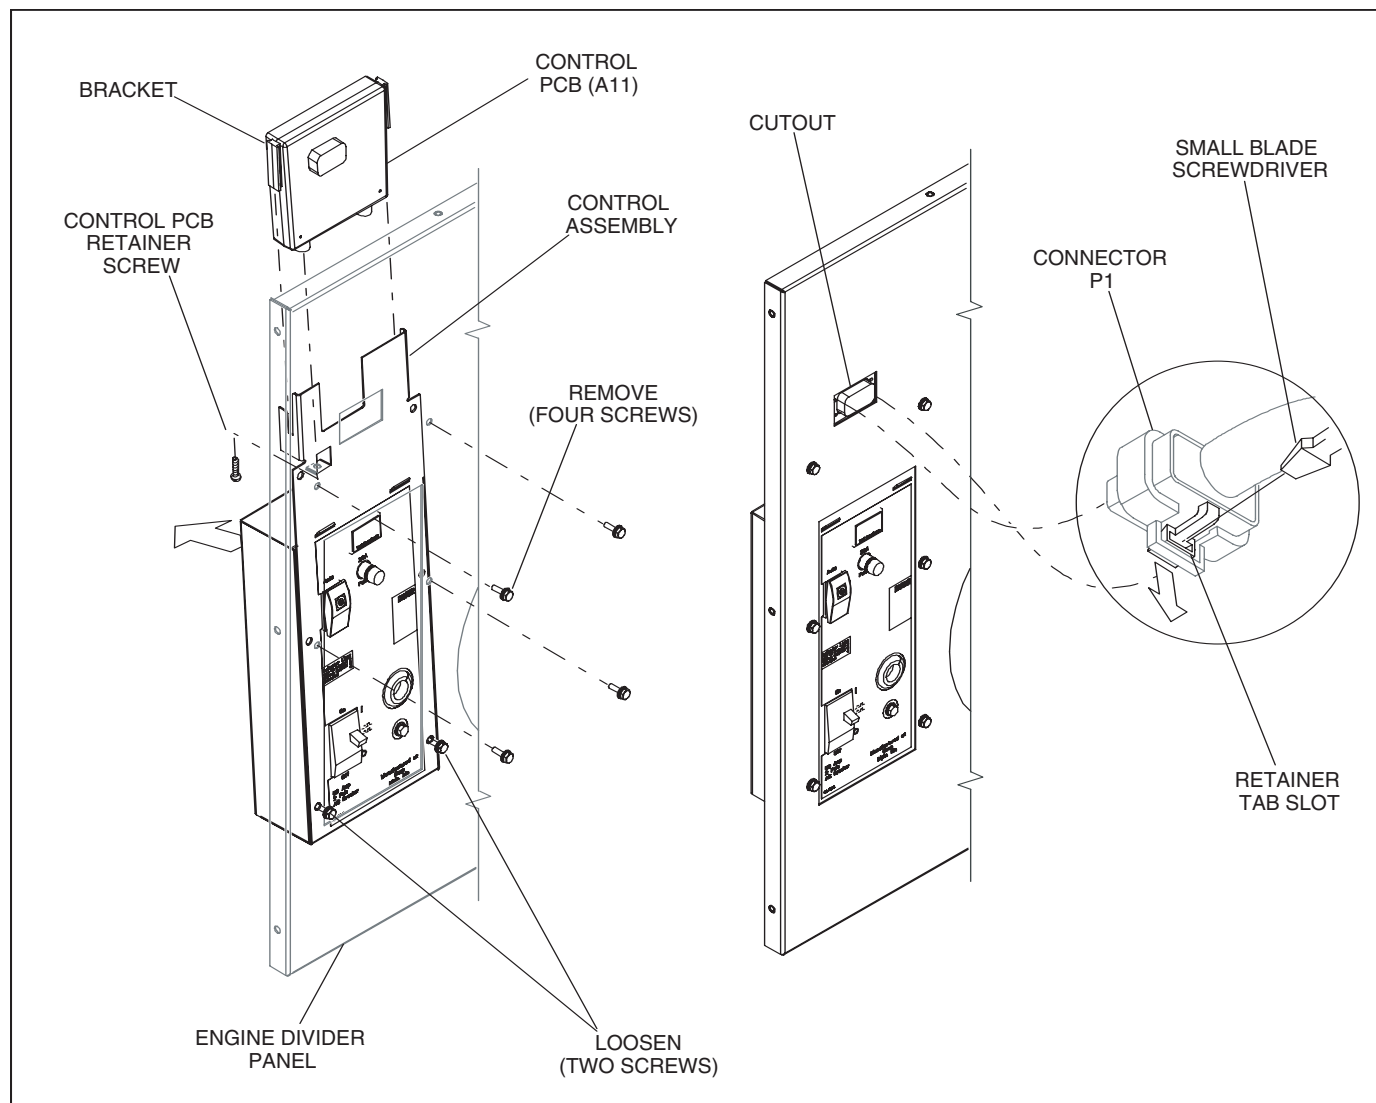

FIGURE 8-1 REMOVING CONTROL PCB
4. Remove connector P1 from the control PCB (Figure 8-1). To remove connector, insert small blade screwdriver into slot of connector